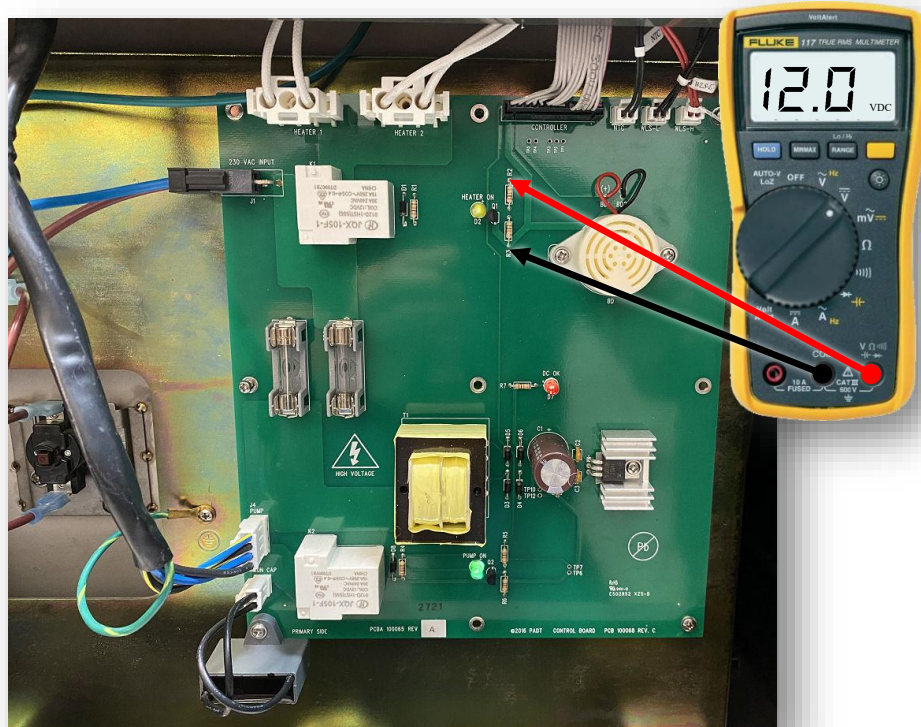

Figure 31 – Reseat the J6 Ribbon Cable
- e. Set the multimeter to the DC Voltage Selection  and check the Heater Enable Signal on the PCB (**See Figure 31**). The Heater Enable signal can be measured across R2 (Heater Enable) and R3 (Ground).